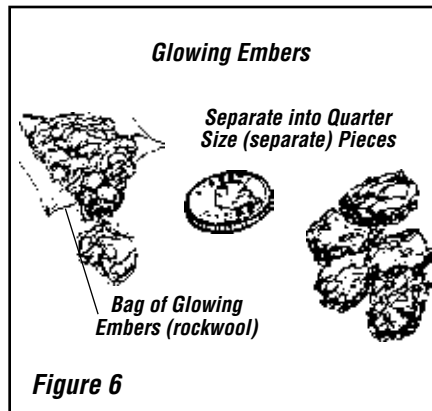

Figure 6
4. **Placement of Glowing Embers** - Separate the Embers (rockwool) into pieces about the size of a quarter (see **Figure 6**). Keep the pieces fluffed up, not matted. Distribute these pieces over the surface of the burner, as shown in **Figure 7 on Page 13**. Do not use more than is necessary. Ensure that the main burner slots remain uncovered by the ember material.